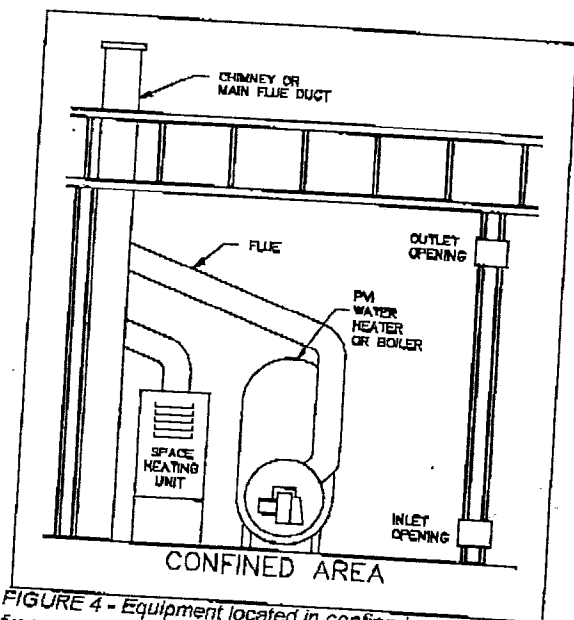

FIGURE 4 - Equipment located in confined spaces; all air from outdoors
1. If air is taken directly from outside the building (see Figure 4):